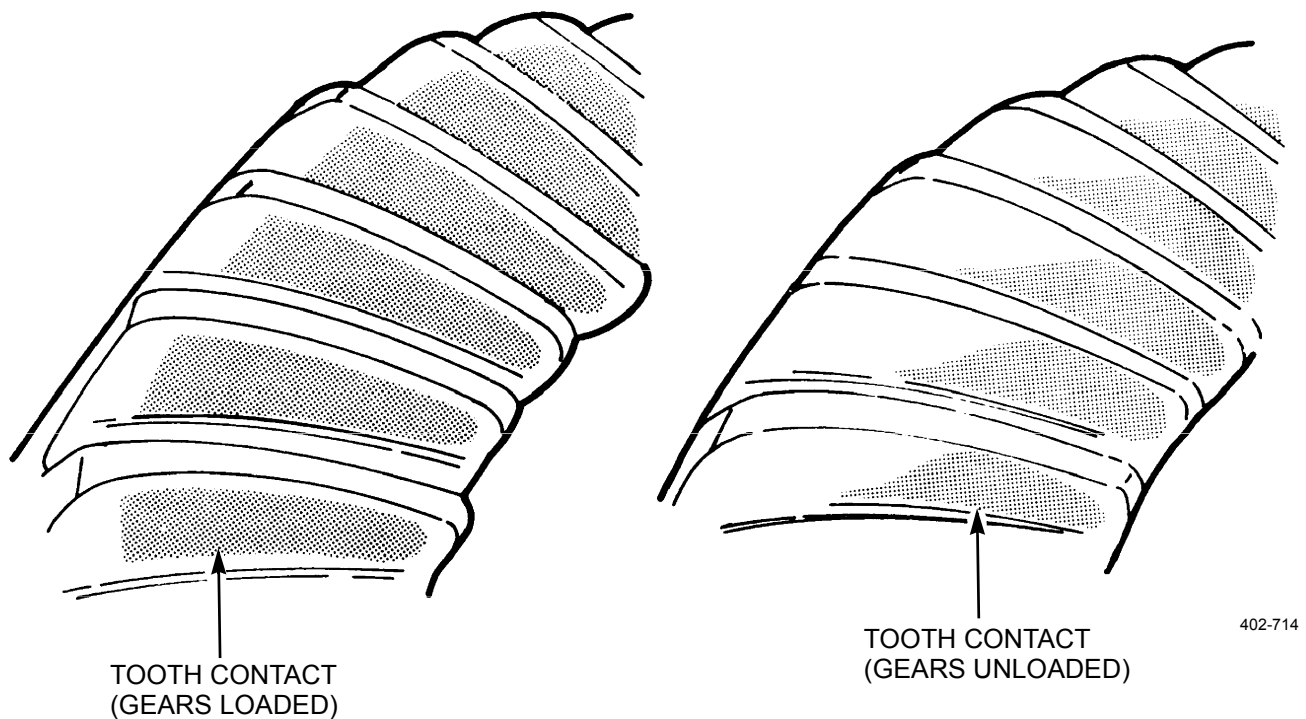

Figure 5. Satisfactory Amboid Tooth Contact.
- (1) Refer to paragraph WP 0257 00 for checking procedure.
- (2) With adjustments properly made (pinion at correct depth and backlash set at 0.015 in. (0.38 mm), the contact in figure 5 will be procured. The area of contact is at the toe and is centered between the top and bottom of the tooth.